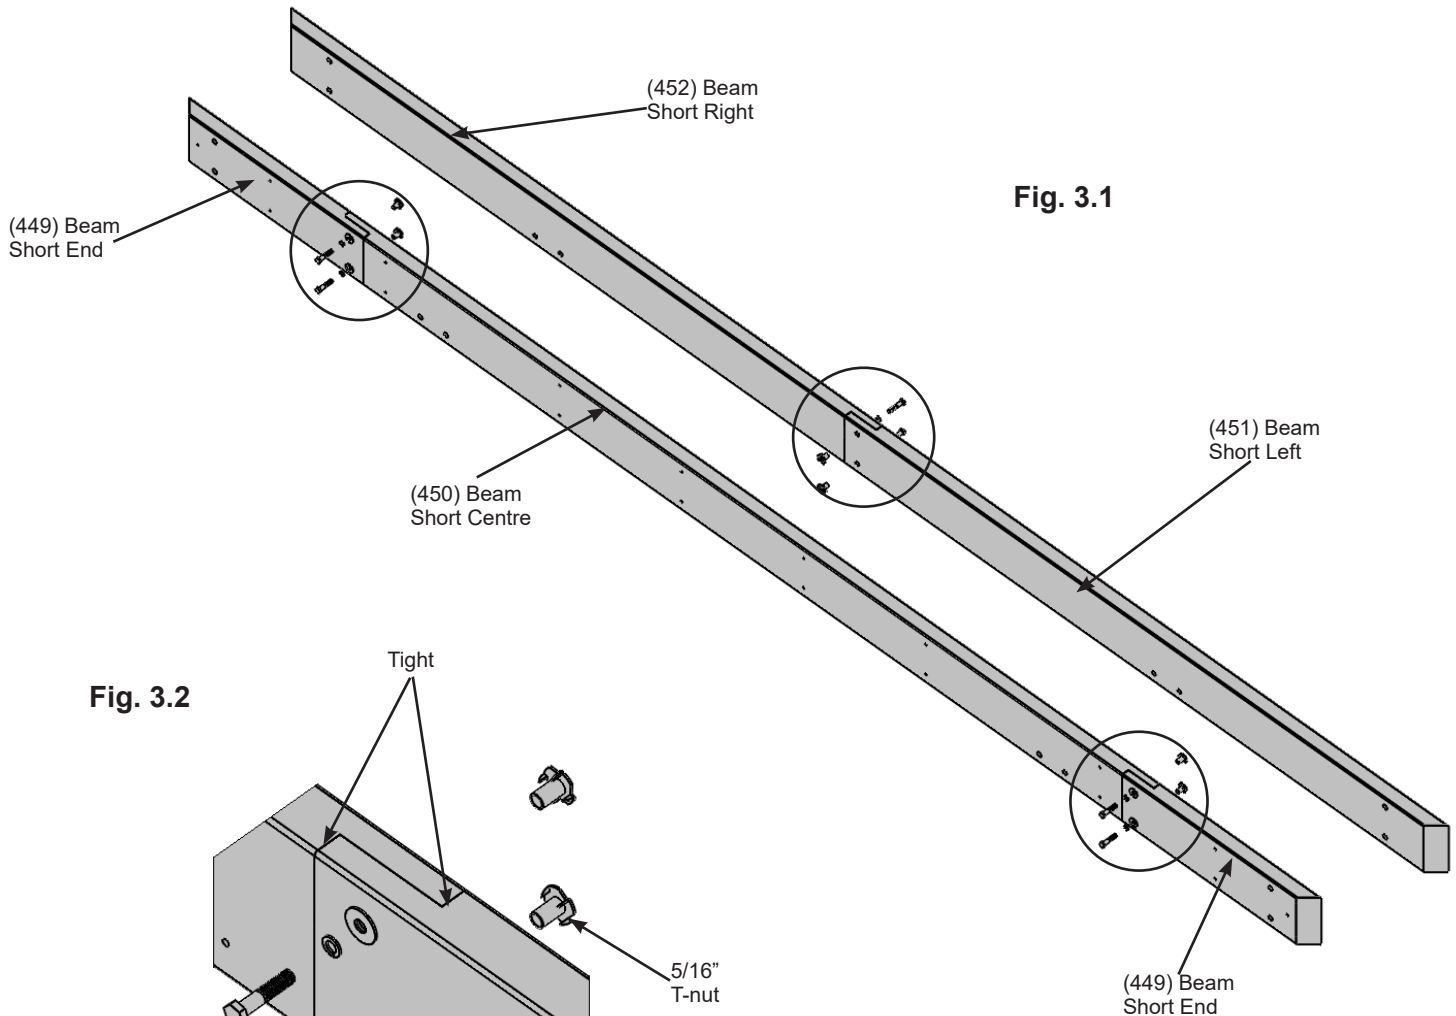

Fig. 3.1
A: Connect one (451) Beam Short Left and one (452) Beam Short Right using two 5/16 x 1-1/2" Hex Bolts (with 5/16" lock washer, 1/4-5/16" large washer and 5/16" t-nut) as shown in fig. 3.1 and 3.2.
B: Connect one (449) Beam Short End to each end of one (450) Beam Short Centre using two 5/16 x 1-1/2" Hex Bolts (with 5/16" lock washer, 1/4-5/16" large washer and 5/16" t-nut) per end as shown in fig. 3.1 and 3.2.